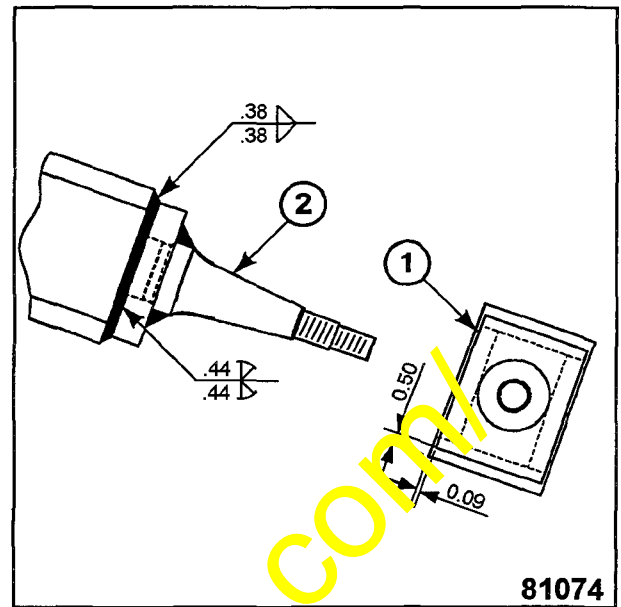

Figure 7
3. Locate new style end weldment (1) to drawbar per dimensions in Figure 7.
4. Protect tapered pin (2) from weld spatter and weld end weldment to drawbar per weld symbols shown in Figure 7.